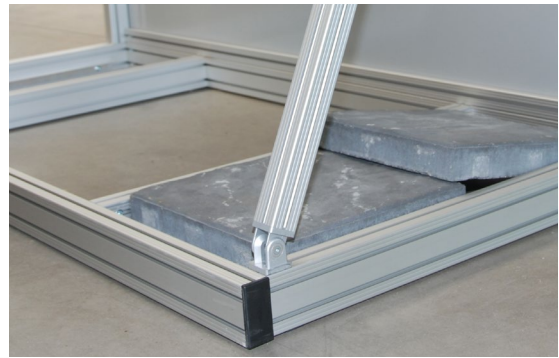

fig. 3.1-28
Step 19 Place the weights **A4** at the rear side of the frame base (**fig. 3.1-28**). Please be aware of the industrial safety regulations (20 kg | 44 lbs per weight).
Step 20 Finally, put the two (2) black cover caps on the top ends of the side supports and press the four (4) grey PVC combination profiles into the outward lead channels of the side supports (above the cross pieces of the profile connectors, 2 x at the right side and 2 x at the left side).